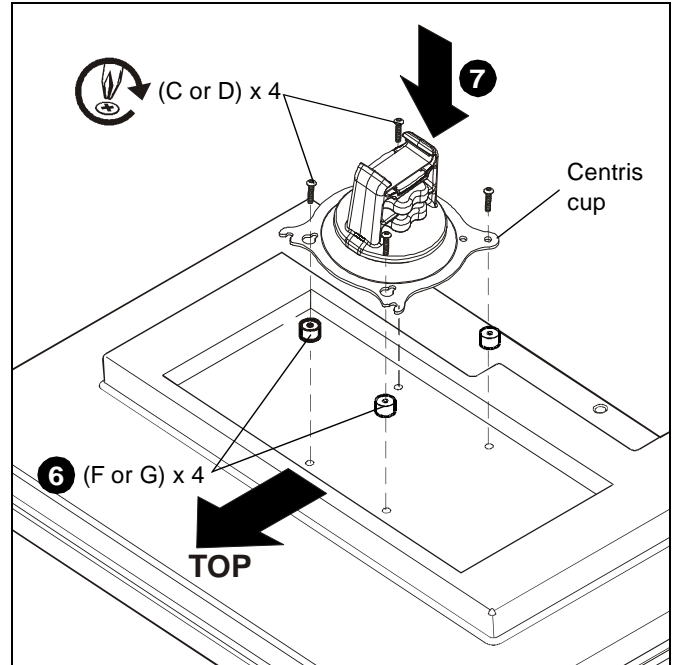

Figure 6
6. Place the four spacers (F or G) over each mounting hole on the back of display. (See Figure 6)
7. Orient mount so that mounting holes in the Centris cup are aligned with the holes in the spacers (F or G); rotate the Centris cup as required (See Figure 6).
8. Install four M4 x 20mm (D) or four M4 x 30mm (C) Phillips head cap screws through the mounting holes in Centris cup, through the spacers (F or G), and into display (See Figure 6).